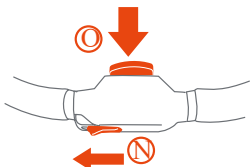

Fig. 12b
- To fold the stroller slide the thumb trigger to the left (1) and squeeze the pull trigger while pushing forward on the handle (2) (Fig. 12b).